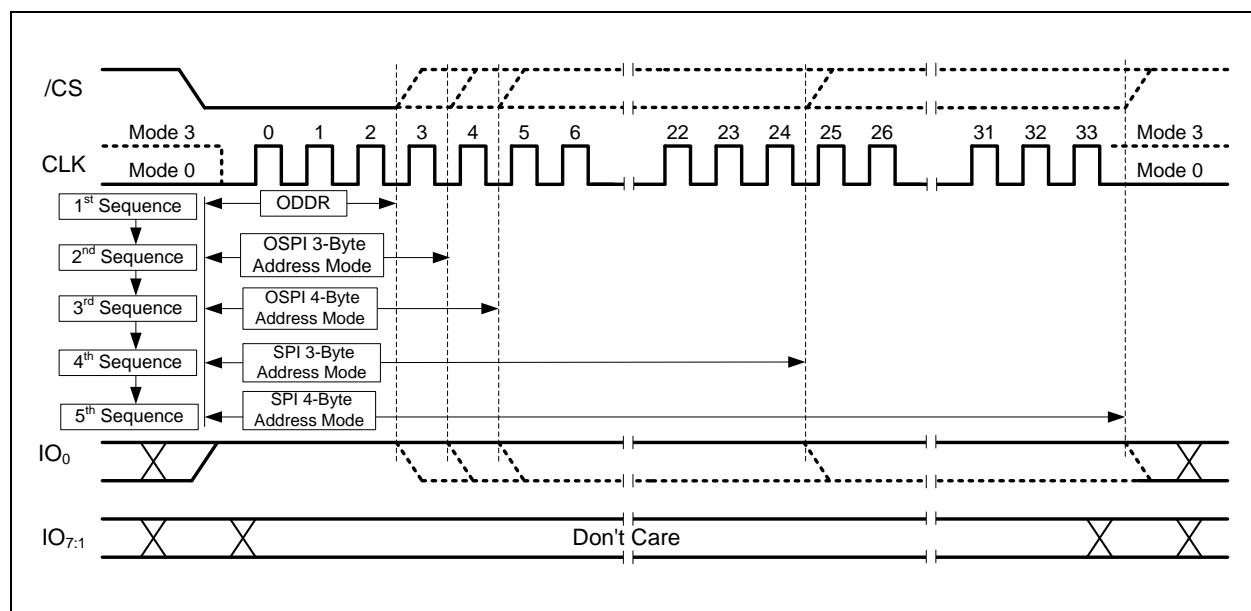

Figure 4-4. Exit XIP Sequence
The above sequence is illustrated in Figure 4-4 below. This sequence will only exit indeterminate XIP mode by setting XMb to '1'. It does not reset the device or interrupt an ongoing internal Program/Erase operation. After terminating XIP mode, the host controller should regain control of the interface and perform the required operations either by doing further interface recovery, power loss recovery, software reset sequence or hardware reset for full device recovery.
- The first step is to execute the Exit XIP Recovery Sequence as detailed on Section 6.5.4 and Figure 4-4 (on the previous section). This is a five step method in exiting XIP mode by driving IO0 to '1' until XIP Mode Bit (XMb) is passed on each of the supported XIP IO Mode Configurations (ODDR, OSPI with 3-Byte or 4-Byte Address, and SPI with 3-Byte or 4-Byte Address).
- The first step is to execute the Exit XIP Recovery Sequence as detailed in Section 6.5.4 and Figure 4-4 (on the previous section). This is a five step method used to exit XIP mode by driving IO0 to '1' until XIP Mode Bit (XMb) is passed on each of the supported XIP IO Mode Configurations (ODDR, OSPI with 3-Byte or 4-Byte Address, and SPI with 3-Byte or 4-Byte Address).